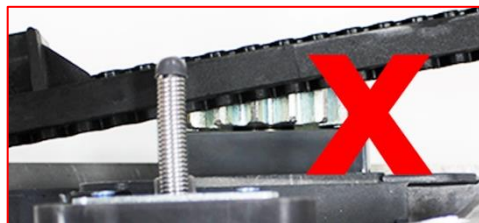

Fig 15
- Ensure motor cog and gear rack are correctly aligned. Under no circumstances should the gate motor drive cog carry any weight of the gate. It is the task of the gate castors or wheels to carry the weight of the gate (as per Fig 15).